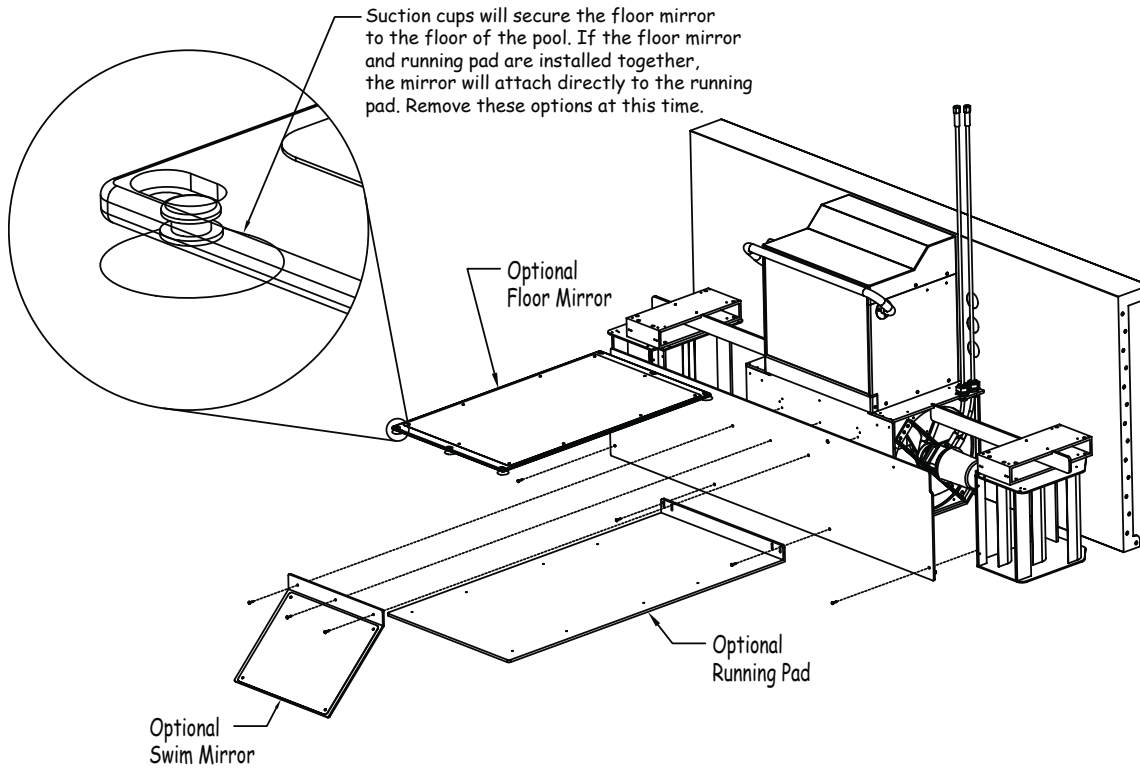

Fig 4
4. If the optional floor mirror, swim mirror, or running pad have been purchased, these components must be removed at this time (Fig 4).